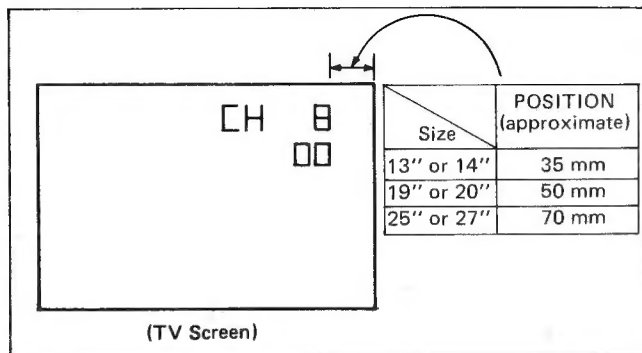

Fig. C-2
2. As shown in the Fig. C-2, adjust the character positions with the CLK VR (On screen adj. VR).